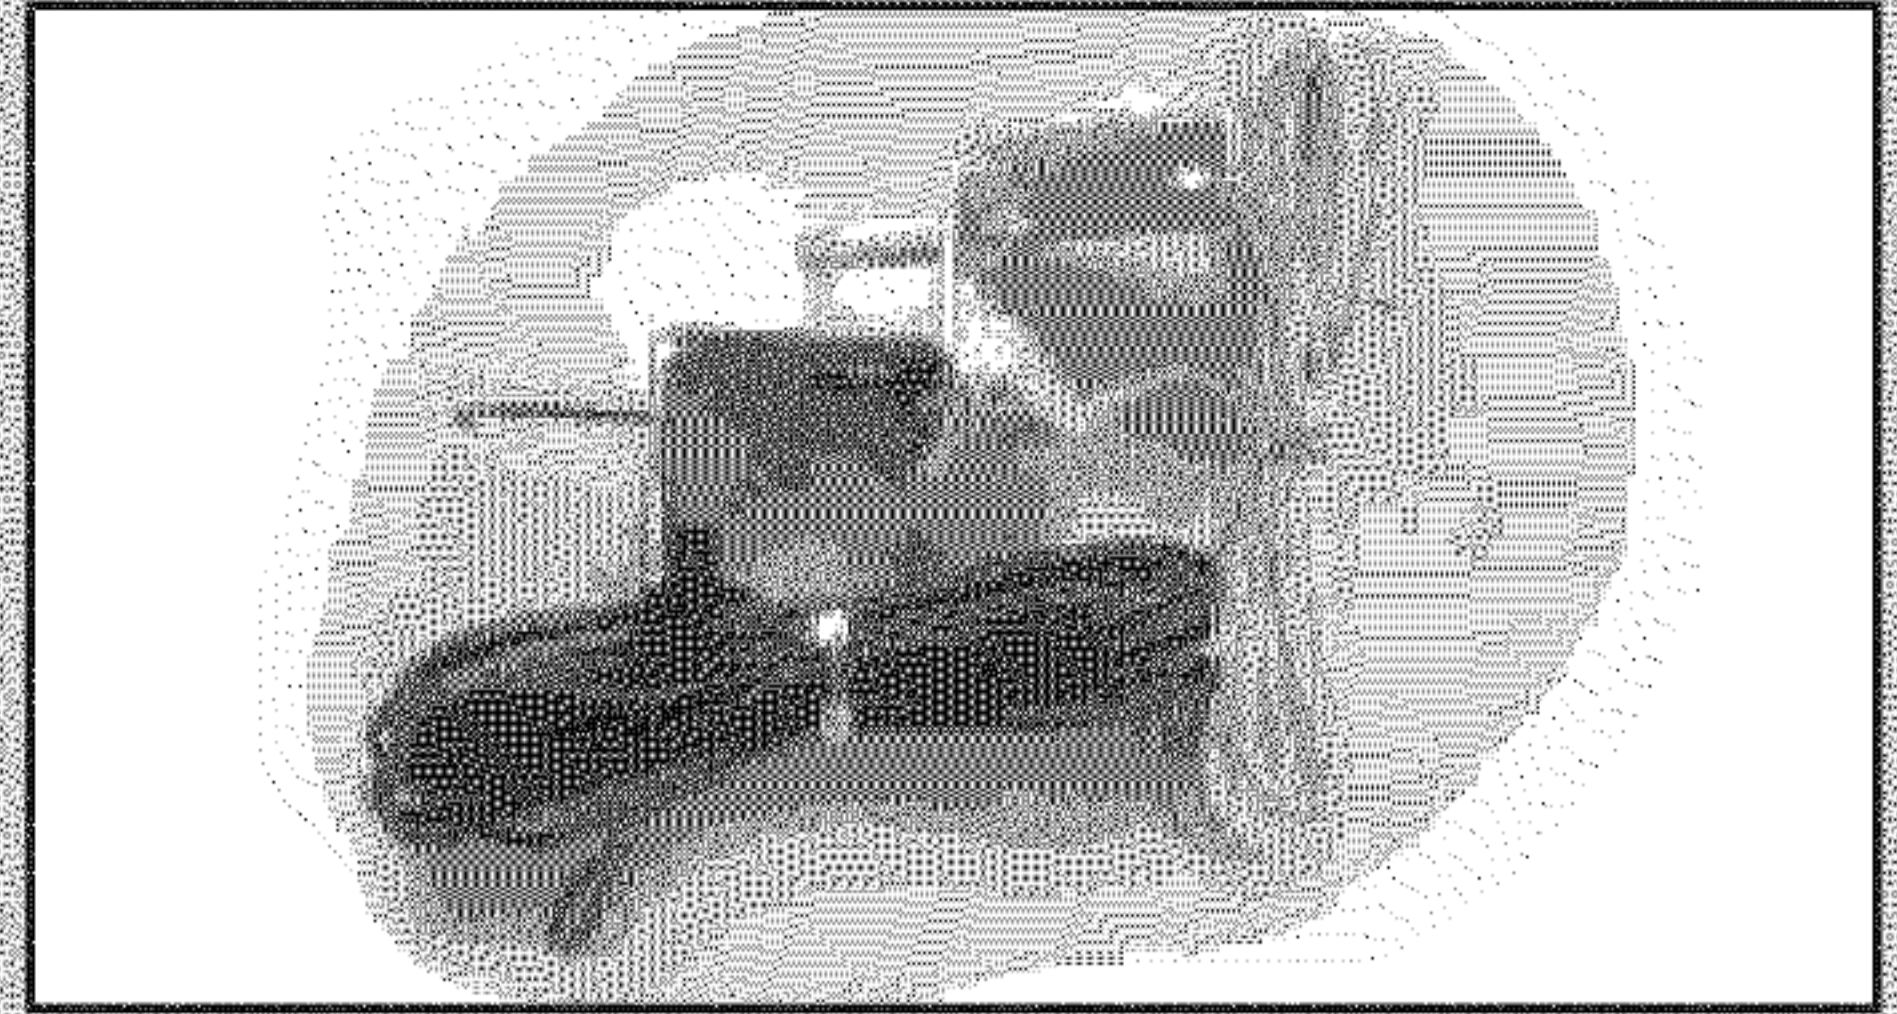

FIG. 1-10 Identify limit switches / insert set screws.
2 switches included, "CLOSE" limit switch (brown wire) and "OPEN" limit switch (white wire) (Fig. 1-10).
- Turn set screws (39) into threaded holes, just enough so screw stays in place. (Fig. 1-10).